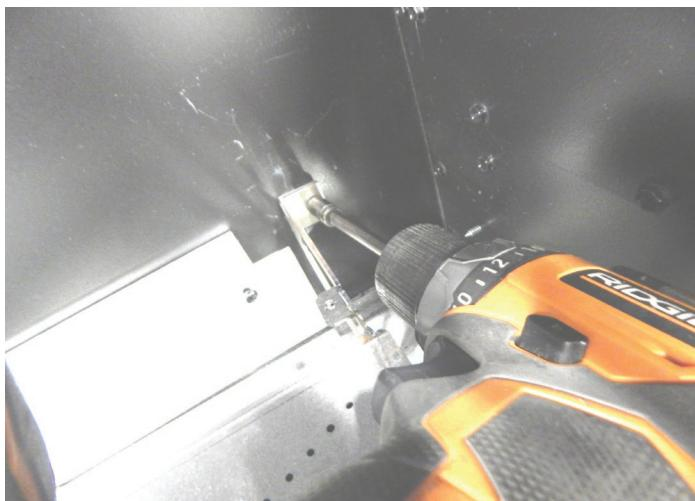

Figure 4
10. To change the burner orifice, remove (4) 5/16" Hex screws that secure the outside burner brackets. Each end bracket is secured with (2) screws. **See Figure 3** for the location of the front screw, and **Figure 4** for the location of the rear screw.